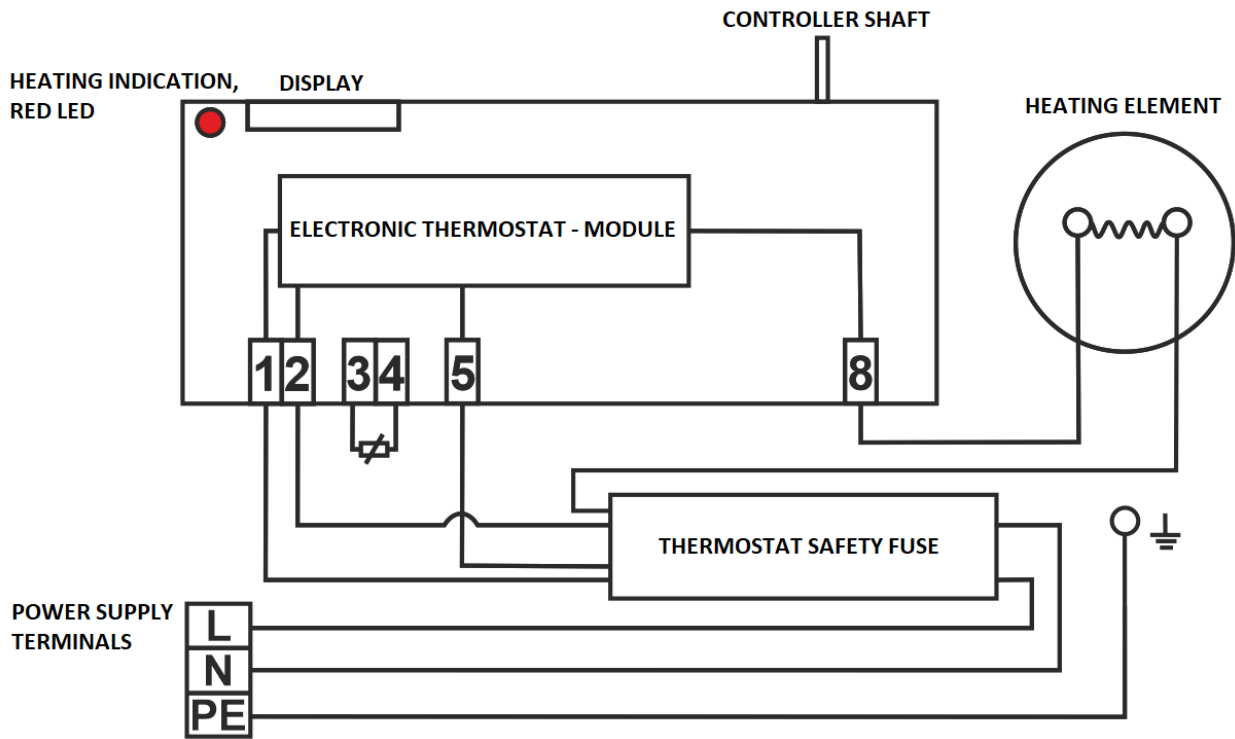

Figure 8
Factory connection must not be changed! (Figure 8). The degree of protection of electric parts of the heater is IP 44. The power input of electric element is 2.000 W (OKHE ONE/E 50 - 120), 1.100 W (OKHE ONE/E 30).
- The wiring diagram is attached to the heater on the side of the electric installation cover (Figure 8).